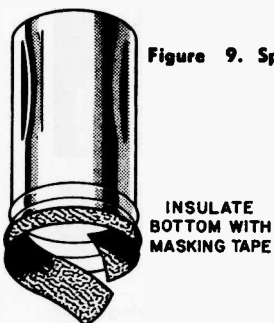

Figure 9. Special Tube Shield for IF Alignment and IF Response Curve Check.
- Connect generator high side to insulated tube shield for 6J6 (V102); connect low side to chassis near tube shield. See figure 9.
- Connect generator high side to top of insulated tube shield for 6U8 (V903); connect low side to chassis near tube shield. See figure 9.